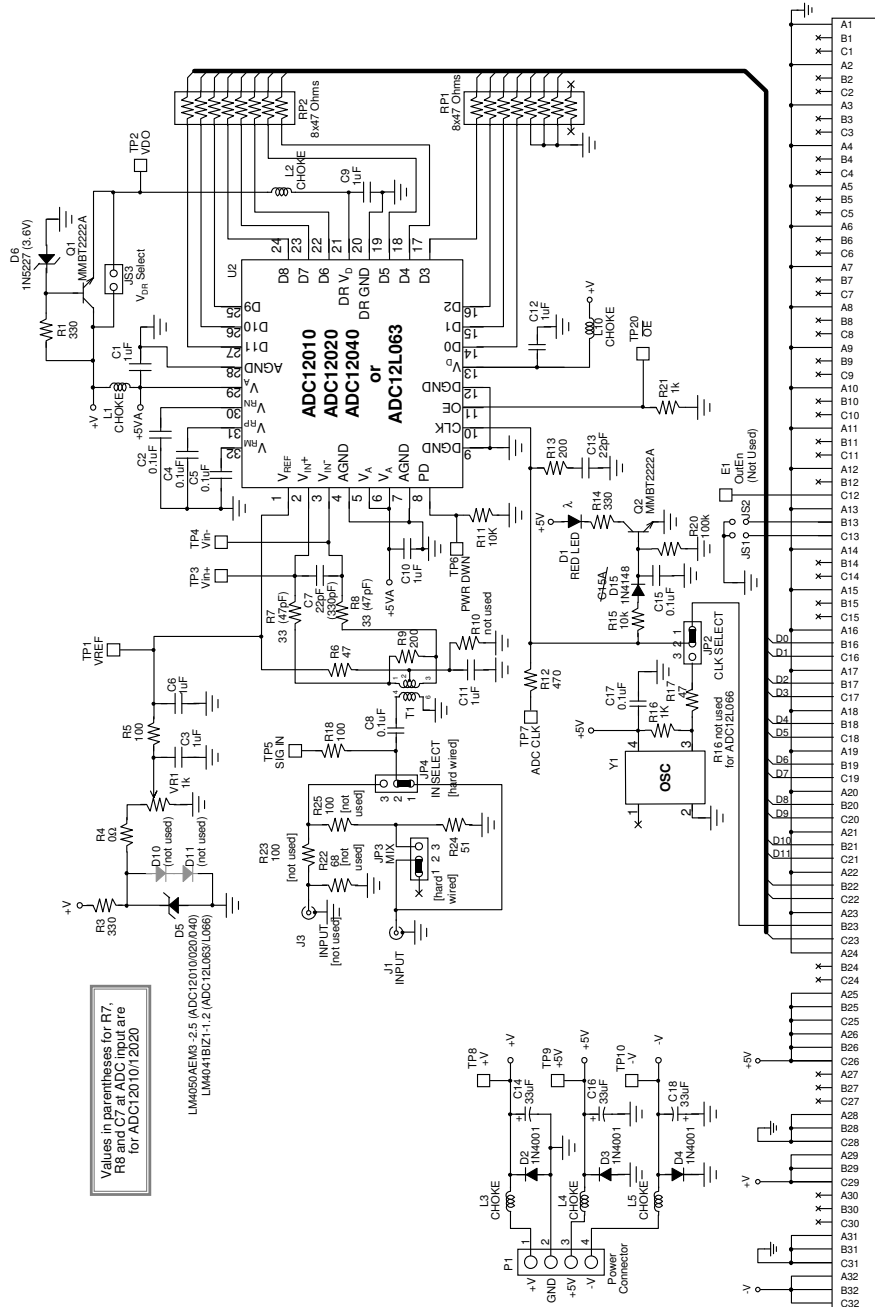

Figure 6. ADC 12040 Evaluation Board Schematic
8. The digitized signal is available at pins B16 through B21 and C16 through C21 of J2. See board schematic of *Figure 6*.
The ADC12040 Evaluation Board schematic is shown in *Figure 6*.